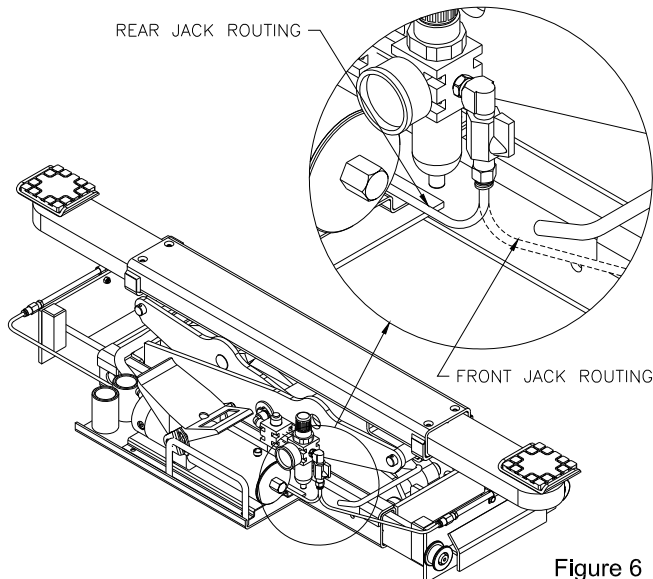

Figure 6
2. Rout hose with connections as shown in Figure 6. Note: different routing for Front or Rear jack location.